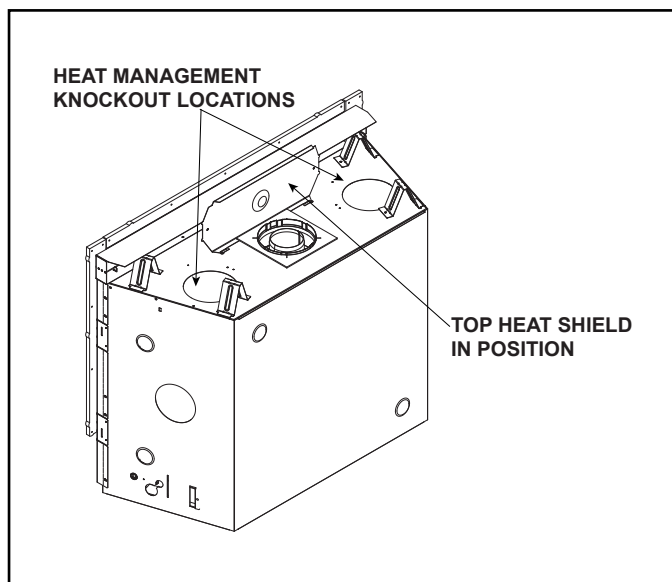

Figure 6.2 Top Heat Shield in Position
2. Fold up top heat shield to 90 degrees as shown in Figure 6.2.
- Locate the two heat management knockouts on the top of the appliance. See Figure 6.2. Remove the knockouts from the appliance with a tin snips.